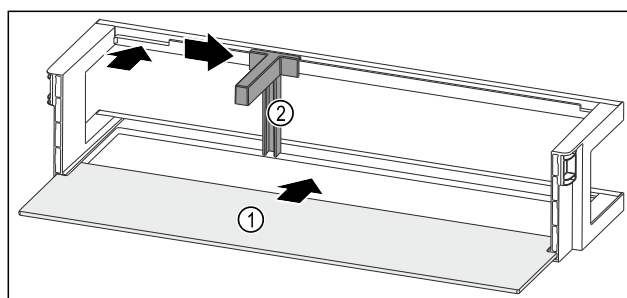

Fig. 165 Door rack with shelf
- Push the shelf Fig. 165 (1) into the side recesses.
- Insert the bottle holder Fig. 165 (2) in the recess.
- Push the bottle holder Fig. 165 (2) to the desired position to the side.